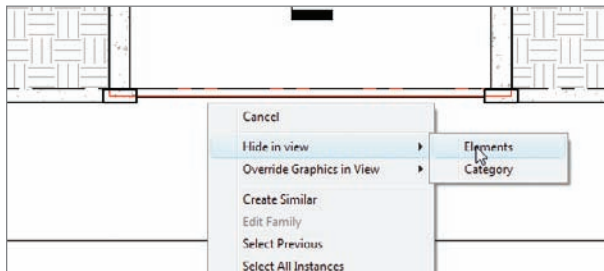

FIGURE 18.22 Hiding the pad in the view
13. You can see the pad sitting on top of the footing extending past the wall, as shown in Figure 18.22. Select it.
14. When the pad is selected, right-click and select Hide In View > Elements, as shown in Figure 18.22.